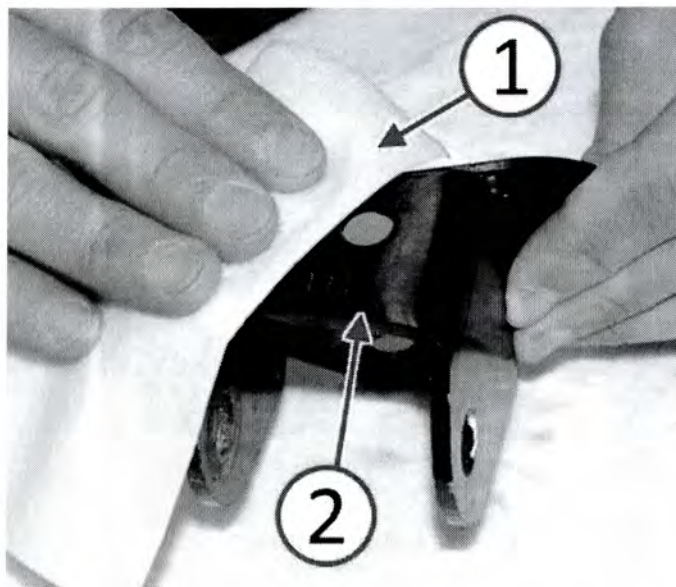

Fig. 4 Clean Shock Absorber Bracket Top Surface
9. Using a clean cloth and isopropyl alcohol (1), thoroughly clean the shock absorber bracket top surface (2) (Fig. 4).